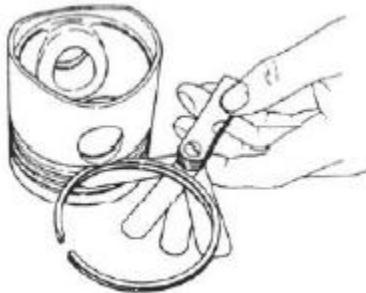

Figure 98.
8. Place each compression piston ring in the groove as shown (Figure 98). Use a feeler gauge to measure the clearance between the piston ring and the piston ring land. Record the measurements. See *Piston Ring Mechanical Specifications Chart*. Replace the piston if not within specification.